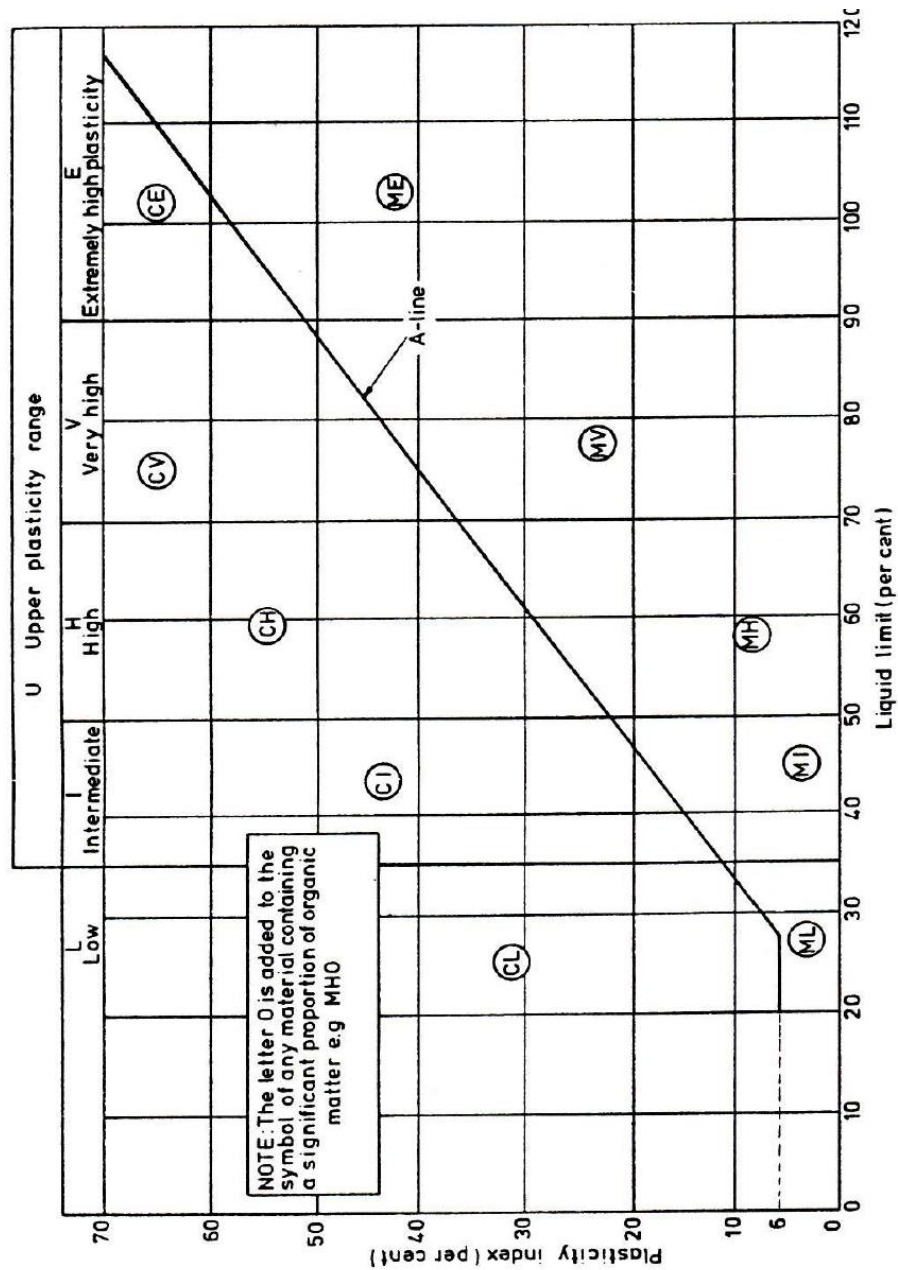

FIGURE Q4b.
- (iii) Provide a soil classification name and symbol for this soil using **Figure Q4b** (2 marks)